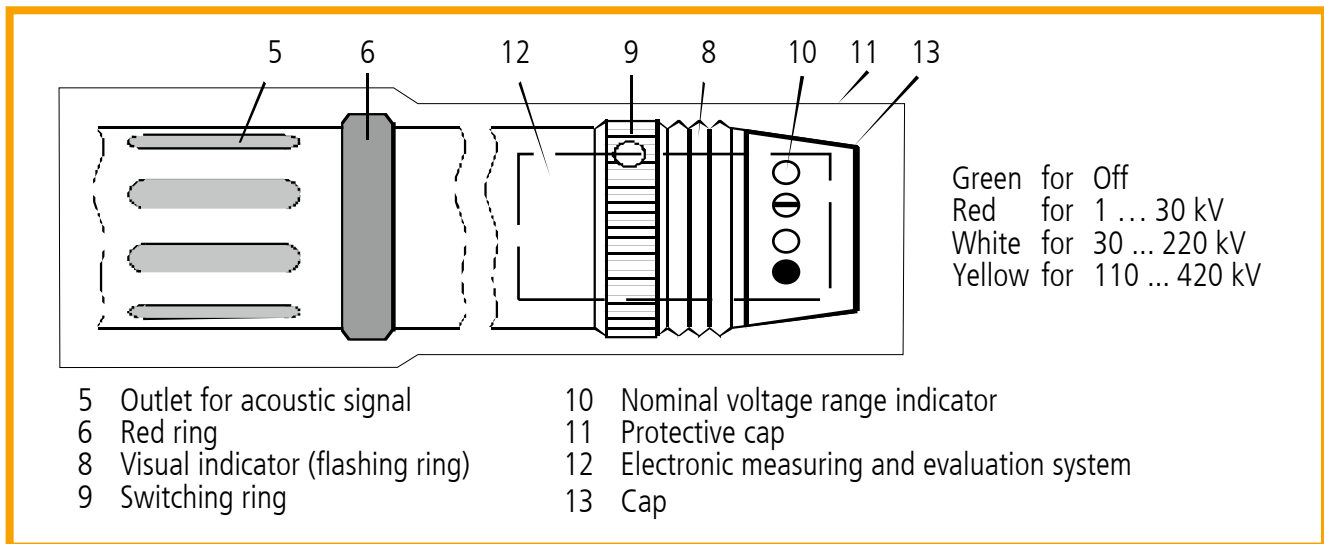

Fig. 5 Operating head with indicator
- 4.7** The voltage detector is a multiple voltage range indicator. The voltage ranges can be changed by turning the yellow switching ring (9) on the operating head (see Fig. 5)
- 5.1** The operating head of the voltage detector has a yellow knurled switching ring (9), which activates the device and sets the corresponding nominal voltage range at the same time when turning it (see Fig. 5).
- 6.2 Release the axial flat headed screw in the cap (Fig. 5, page 8) and remove the cap
- 10.5 Approach the operating head to the part of the installation to be tested (Fig. 5).